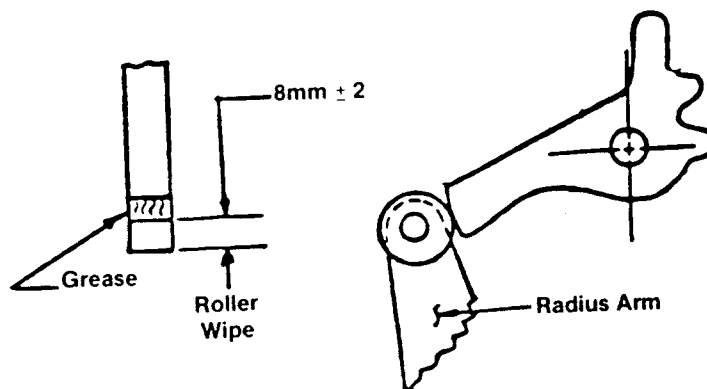

Figure 19c
7. Locate the trip latch roller (Item 64.3.1, Figure 8) and latch (Item 64.2, Figure 8). With the breaker in the open position, wipe a film of grease on the face of the latch where it contacts the roller (see Figure 19c). Execute a close-open cycle and examine the face of the latch. The grease should show a roller wipe of 6 to 10mm as shown in Figure 19c.